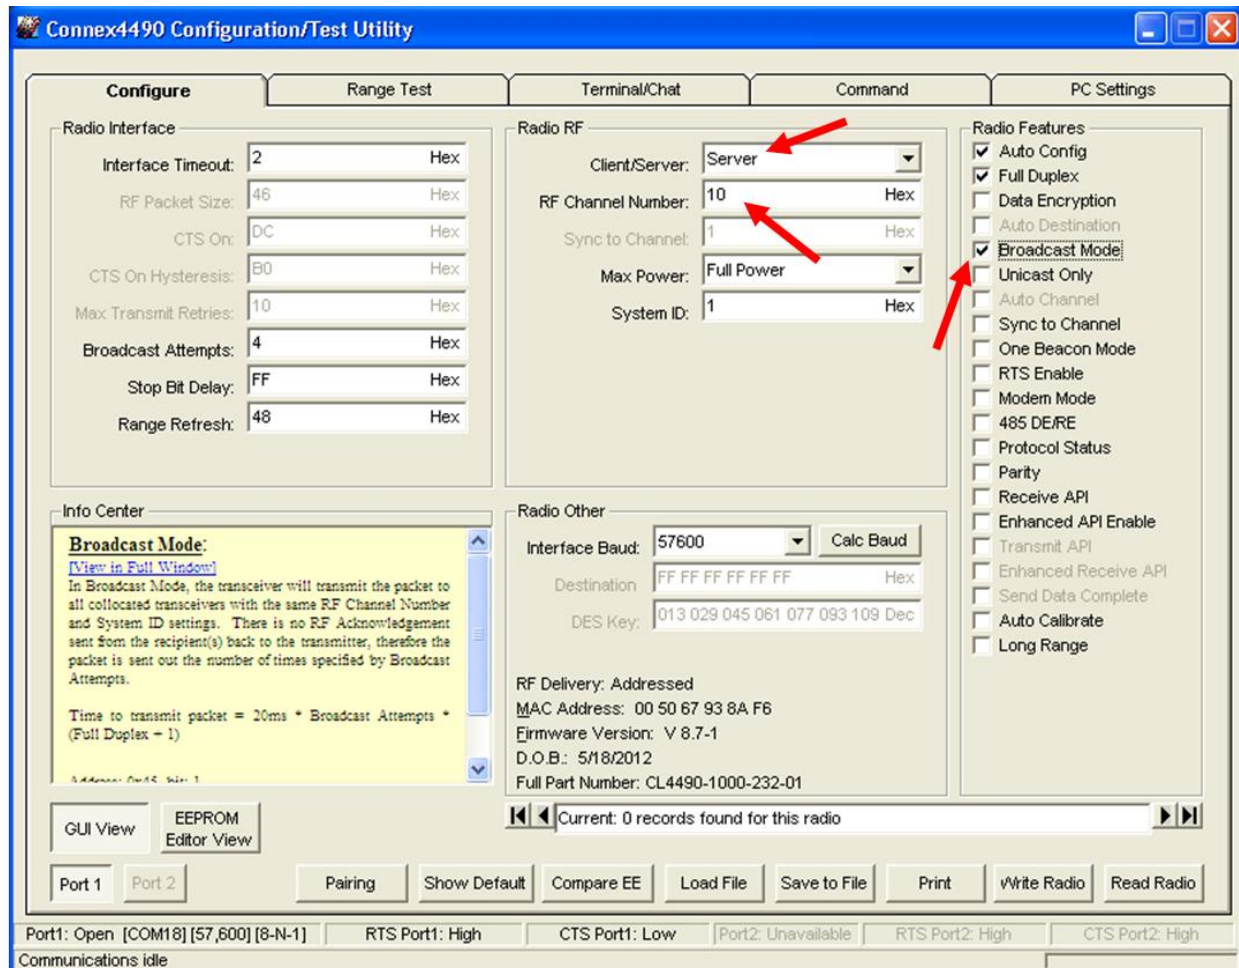

Figure 5: Hop Master settings
- To configure the Hop Master, select **Server** and **Broadcast Mode**. Make note of the RF Channel Number (Figure 5). Once the appropriate changes have been made, click **Write Radio**. A Write Successful prompt appears after a successful write. Note that the values are shown using hexadecimal representation; you may change this to decimal notation by double-clicking on the word “Hex” (it changes to “Dec”).